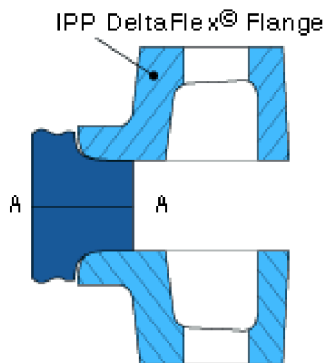

FIGURE 1: HDPE Stub-end
I. The sealing faces of the two stub-ends in a joint should contact each other or in the case of rubber gasketed joint be parallel to each other all around the circumference and in full contact (see lines A-A, B-B, C-C in Fig. 1 and 2).
1. Install all the bolts and nuts finger-tight, ensuring at all times that the alignment conforms to figures 1, 2, and 3.